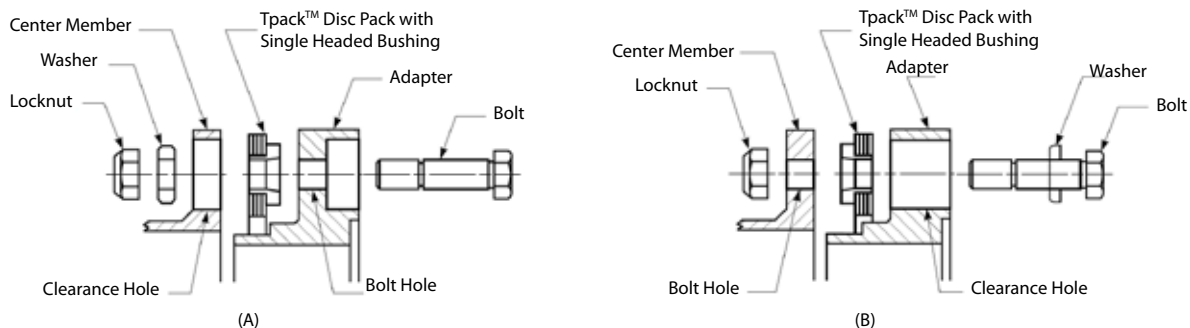

Figure 12 - Tpack disc pack assembled to adapter
10.3. Remove all locknuts, bolts, washers, and disc packs. Special wrenches may be required. Clean the two adapters and the center member, removing any nicks and burrs. See Figure 12. Replace the buffer ring as required. Install the new disc packs to the adapters first.